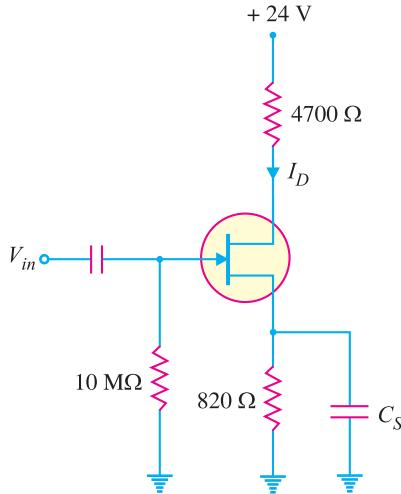

Fig. 19.64
3. In the *JFET* circuit shown in Fig. 19.64 if $I_D = 1.9 \text{ mA}$, find V_{GS} and V_{DS} .